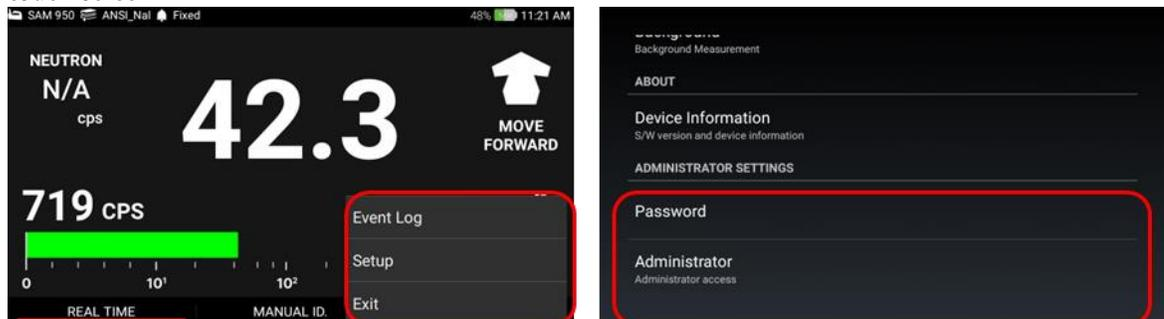

Figure 5.2. login example
2. To change password, setup the password as shown in figure 5.2.
Factory setup default password for administrator is '1234'. To change the password, refer to the figure 5.2. It is in 'Device Information/Password' in Setup menu.